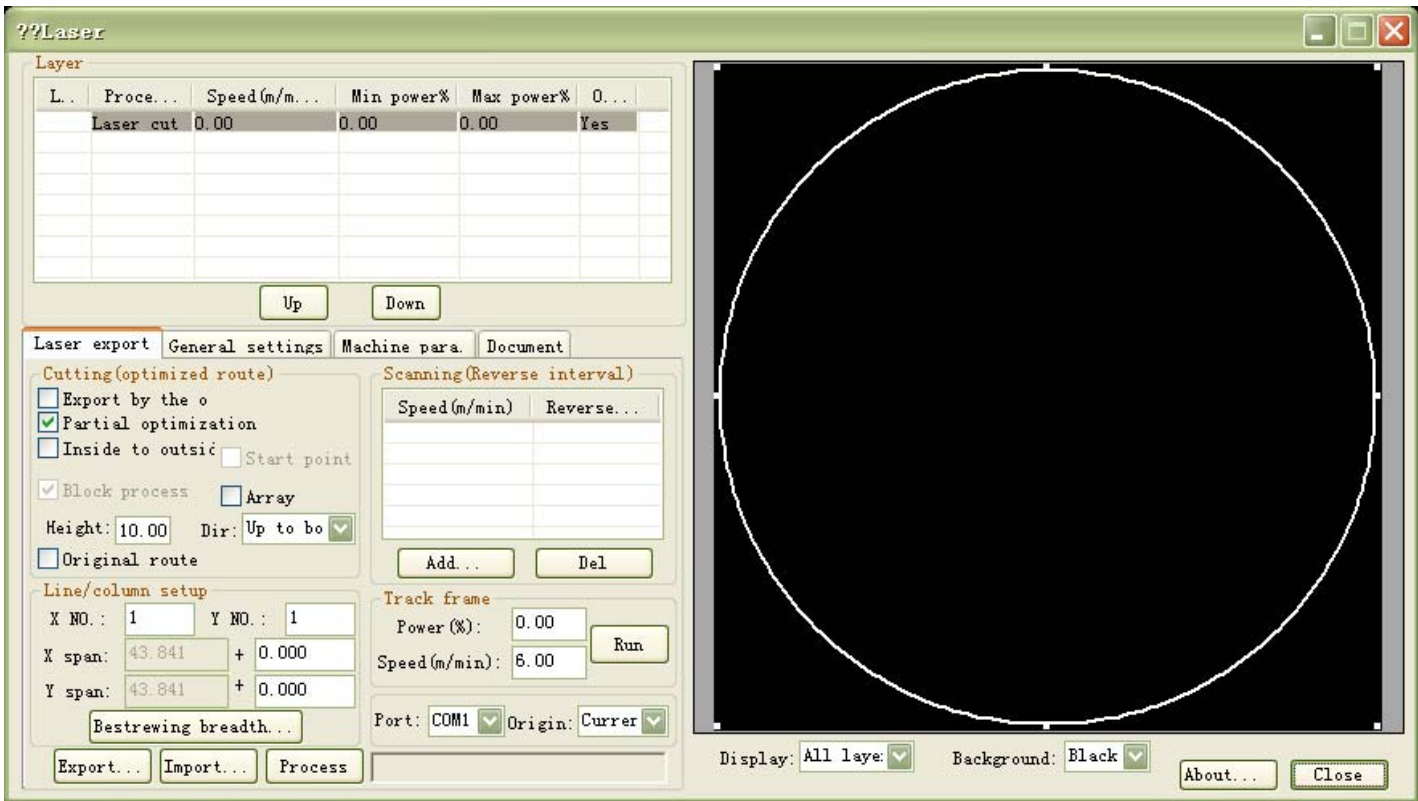

Figure 2-4
(1). Click on the *LaserRunning* button or the *LaserRunning* menu item, the main menu of *LaserRunning* will be shown as Figure 2-4: